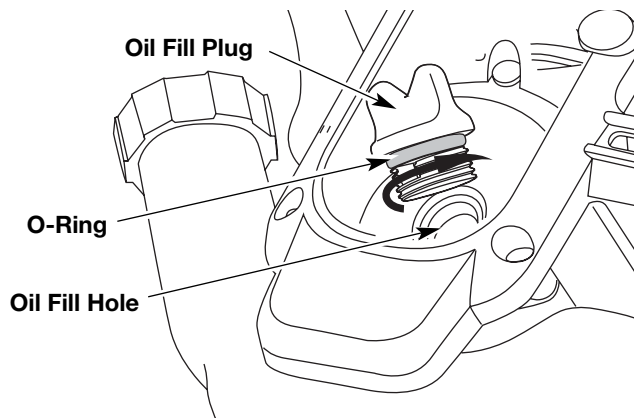

Fig. 5
3. Remove the oil fill plug from the crankcase (Fig. 5).